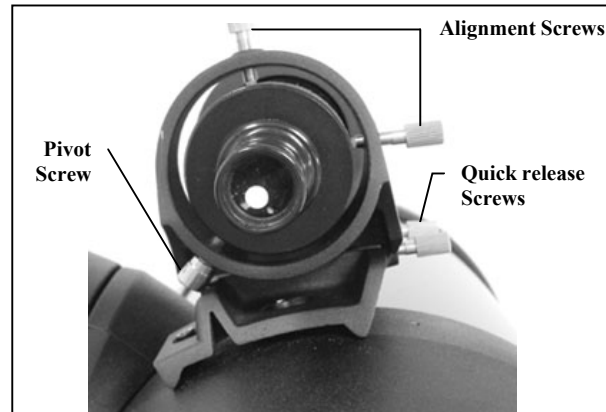

Figure 2-11
2. Slide the eyepiece end of the finderscope into the front ring of the bracket (the front ring is the one without the adjustment screws), then through the back ring. It may be necessary to push down the spring loaded pivot screw so that the finder will pass through the back ring (see figure 2-11)